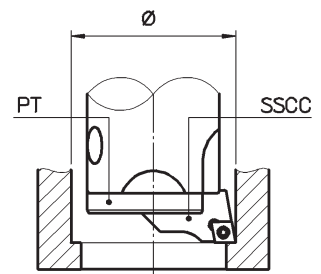

fig.3
- (fig. 3) the boring bars are fitted with a single bit holder for roughing and finishing operations involving normal chip removal. The serrated surface protection plate PT should always be fitted.